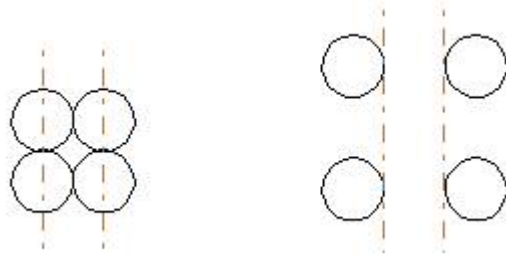

Fig. 5-3 (a) Calculate by Offset Distance (b)
**Calculate by Offset Distance:** The space of the graphs is calculated by offset distance. (Fig. 5-3 (a))
**Calculate by Graph offset Distance:** The space of the graphs is calculated by graph distance. (Fig. 5-3 (b))